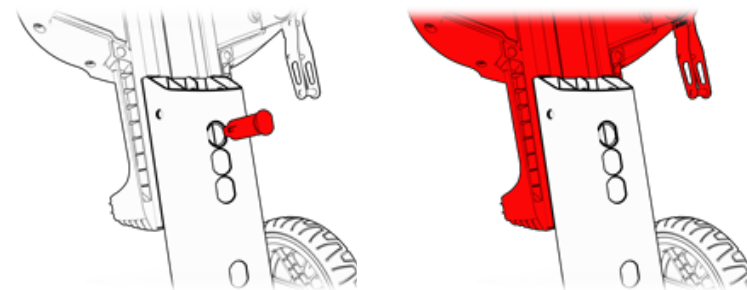

Figure 25 Seat height adjustment holes
3. Once the bracket is removed, you can remove the bulky metal pin (located in one of the four adjustment holes). Keep holding the seat in its place! Remove the pin while holding the seat with your other hand (Figure 25, step 3).
4. Now you can adjust the seat height to any of the four holes and reinsert the pin to hold it in place (see Figure 25, step 4).